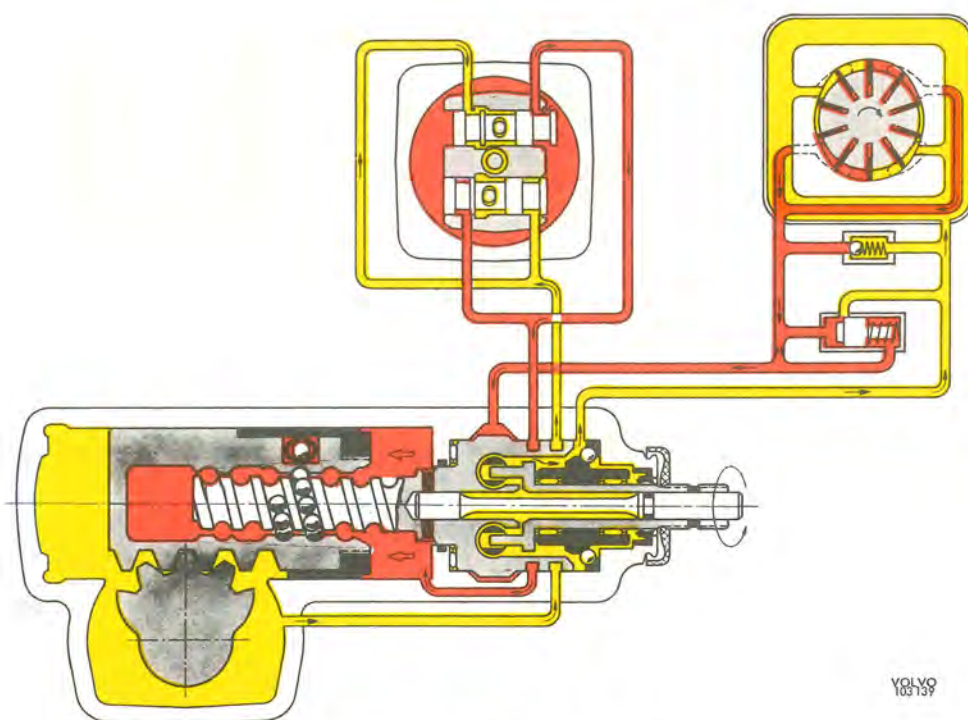

Fig. 6-40. Principle of function, left-hand turn
When the steering wheel is turned to the left (see Fig. 6-40) movement is transmitted via the control spindle (16) and the torsion rod (17) to the steering cam (15), so that the piston (2) is screwed to the left in the figure (downwards in the vehicle). Since the torsion rod is resilient, the steering spindle will be turned in relation to the steering cam and thus influence the valves placed in the cam. The greater the turning movement, the greater will be the valve displacement. One of the control valves (9) is then displaced to the